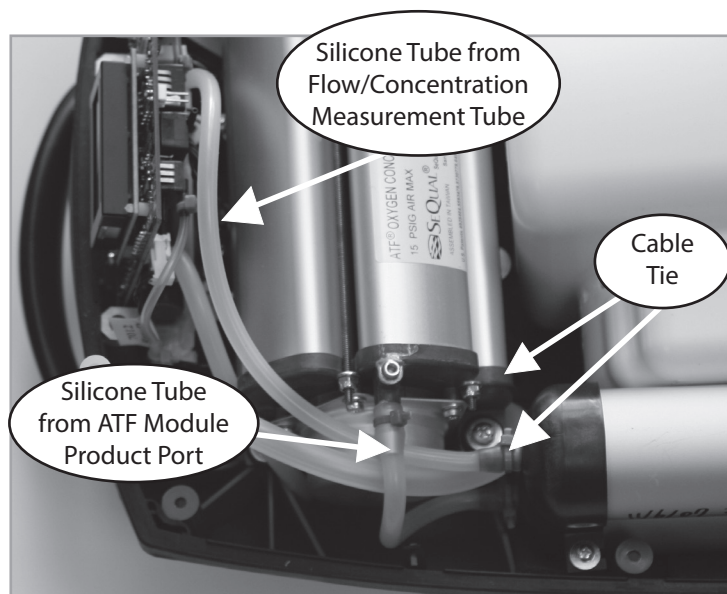

Figure 40: Product Tank inlet and Outlet Connections.
5. Cut the 2 green cable ties that secure the silicone tubes to the bottom of the Product Tank as shown in Figure 40 on previous page. Disconnect these two silicone tubes.
7. Install the silicone tube that comes from the ATF product port to the bottom Product Tank as shown in Figure 40 on previous page. Secure with a cable tie. Inspect the tubing to ensure the tubing is not kinked.
8. Install the silicone tube that comes from the flow tube of the Control Board to the top product tank as shown in Figure 40 on previous page. Secure with a cable tie. Inspect the tubing to ensure the tubing is not kinked.